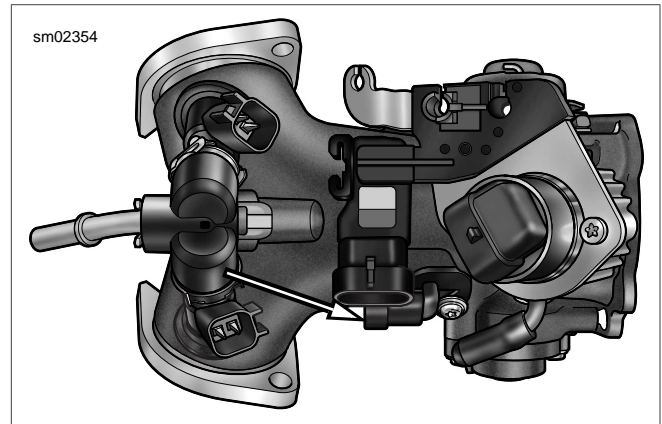

Figure 4-11. Intake Air Temperature Sensor Location
3. See Figure 4-11. Unplug IAT sensor connector [89].
2. See Figure 4-11. Insert sensor into induction module with electrical connector facing toward the left side of the motorcycle.